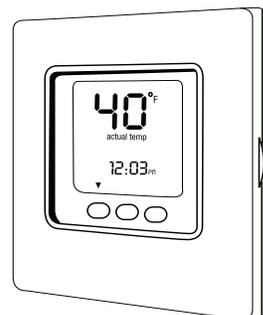

Fig. 7 – Lowest Temperature Setting
1. Set your room thermostat to the lowest temperature setting and set the “MODE” to “OFF” (see Fig. 7).